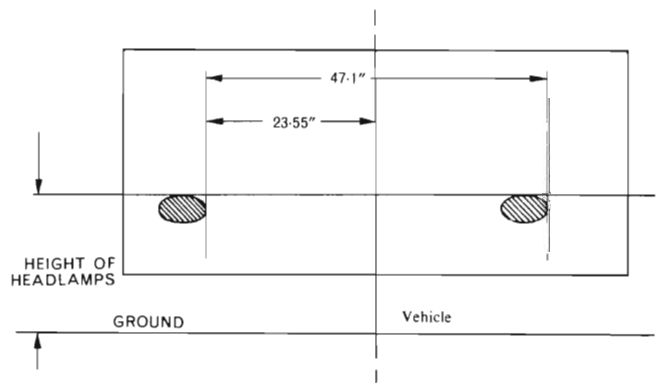

Fig. 4. Low beam adjustment pattern (single round).
- (1) Follow steps (1) and (2) of Para. 3.
- (2) Adjust low beam of headlights to match the pattern in Fig. 4.
- (3) The adjustment screws can be reached through holes provided in the headlamp bezel.
- (4) The screw at the bottom of the lamp raises or lowers the lamp in the vertical plane.
- (5) The screw on the inboard edge of the lamp adjusts the lamp along the horizontal plane.